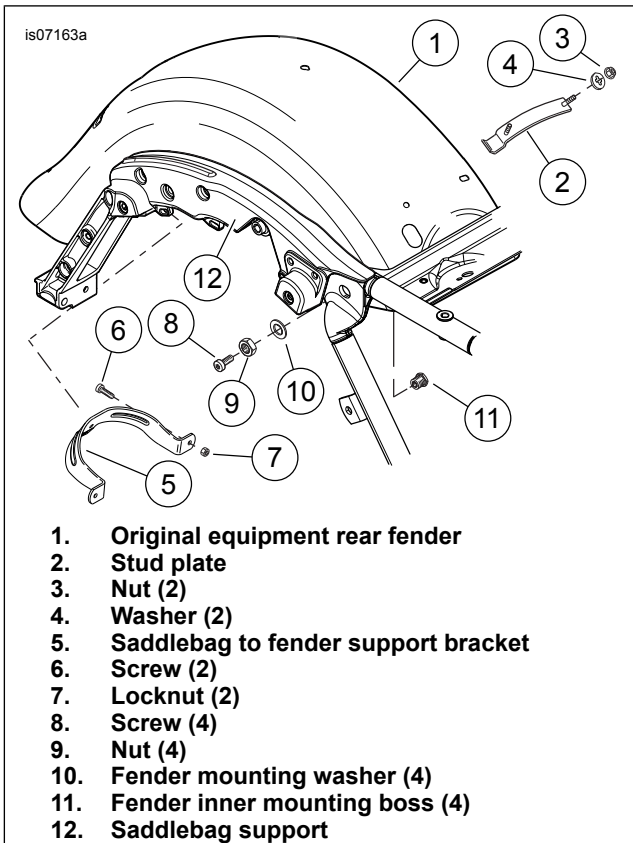

Figure 1. Remove Rear Fender Items
2. See Figure 1. Remove the following items from the OE fender (1), and set aside for later installation to the **new** fender:
- a. The stud plate (2), two nuts (3) and two washers (4) at the front of the fender, and
- b. the saddlebag to fender support bracket (5), two screws (6) and two locknuts (7) at the rear of the fender.
- c. The saddlebag supports (12).
1. See Figure 1. Install a **new** fender mounting boss (11), from the inside, through one of the four holes in the sides of the fender. Place a washer (10) onto the threads of the boss, and fasten with a nut (9). Tighten the nut to 20.3–27.1 N·m (15–20 ft-lbs). Repeat for the remaining three holes.
9. See Figure 1. Install the saddlebag supports (12).